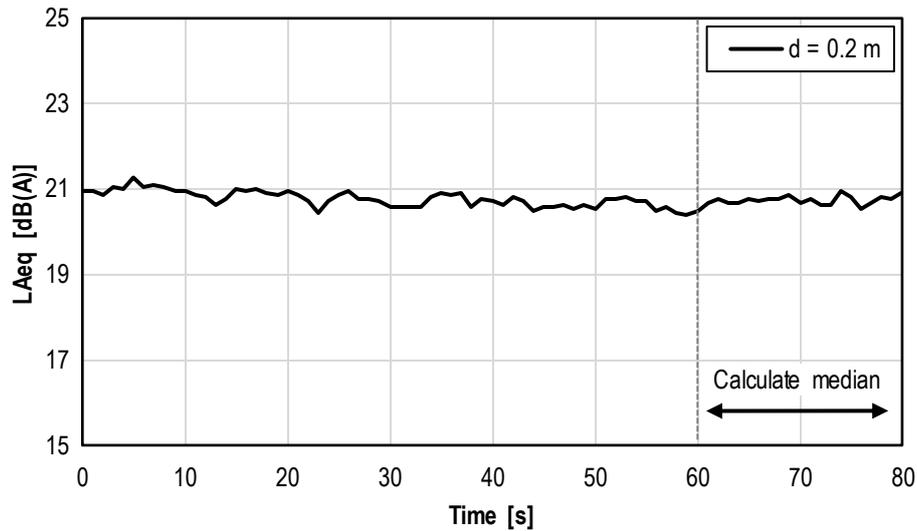

Figure 7: Measurement data for acoustic emission level in dB(A) for the typical SPSxx PM sensor at a distance of 0.2 meters.
An example of acoustic emission level measurement for a Sensirion PM sensor is shown in Figure 7. The y-axis shows the LAeq value in dB(A) whereas the x-axis shows the time elapsed from the beginning of the test in seconds.